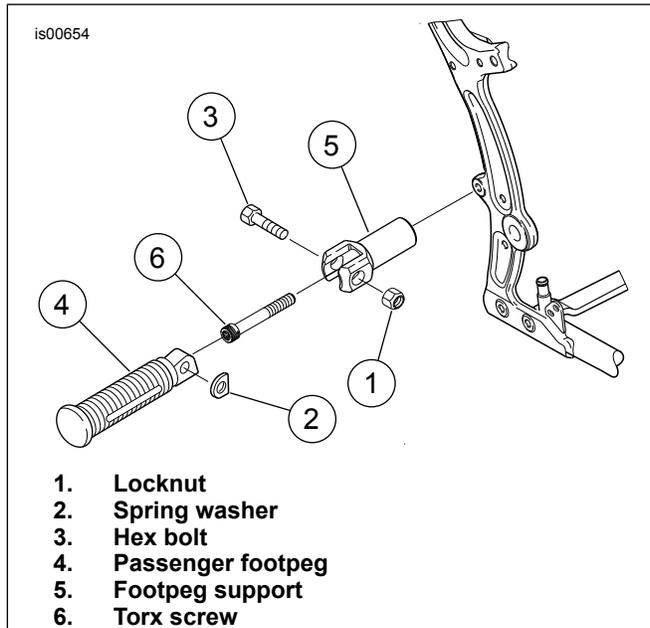

Figure 1. Remove footpeg and mounting components.
2. See Figure 1. Remove locknut (1), spring washer (2), hex bolt (3), and passenger footpeg (4) from footpeg support (5). Save for later use.
3. Remove Torx® screw (6) and footpeg support (5) from frame.